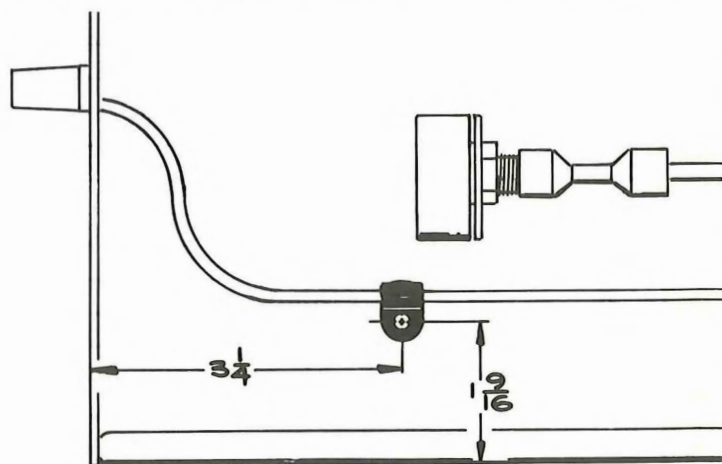

Fig. 7 3A1
- ( ) Drill a 5/32 in. hole in the chassis as indicated in Fig. 7.